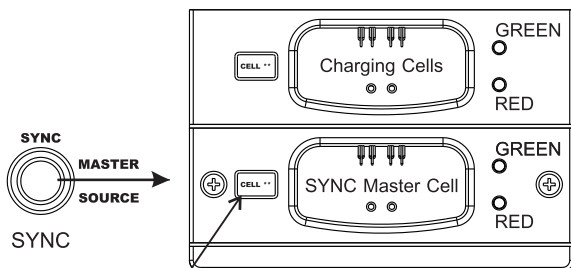

Fig. 25
3. Charging the Transmitters and Receivers, Fig. 25
- (A) Insert the receivers and/or transmitter into the charging cells. Make sure the battery contact points are aligned with those inside the charging cell.
- (B) During charging state, the LCD panel on the portable receiver or transmitter will display the word "Charging" and still red indicator appears on the charger case. Word will disappear on the LCD panel once it is fully charged and still green indicator appears on the charger case.
- (C) These charging cases are used for
4. SYNC (Channel Synchronization), Fig. 25:
- (A) The SYNC function facilitates channel synchronization between receivers and transmitter automatically.
- (B) Power on the charger. Insert the transmitter or receiver (the channel can be preset in advance) into cell #4 (MTG-100C-12) or cell #12 (MTG-100C-28), marked as Master/Source.
- (C) Insert other receivers and transmitters in charging cells. Make sure all battery contact points are aligned with those inside the cell.